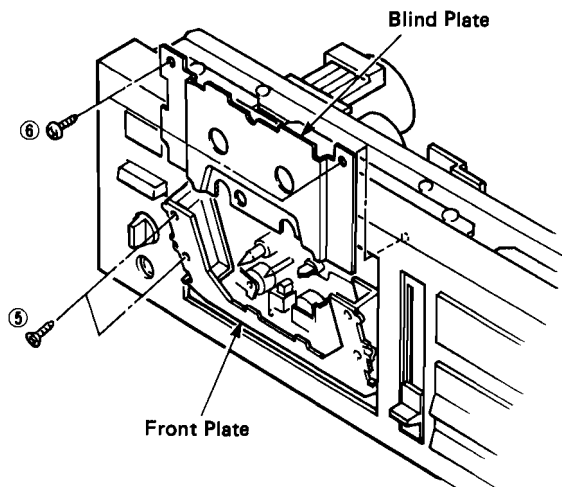

Fig. 4
- a. Remove 2 screws ( ⑤ ) in fig. 4, then remove the front plate.
- b. Remove 2 screws ( ⑥ ) in fig. 4, then remove the blind plate.